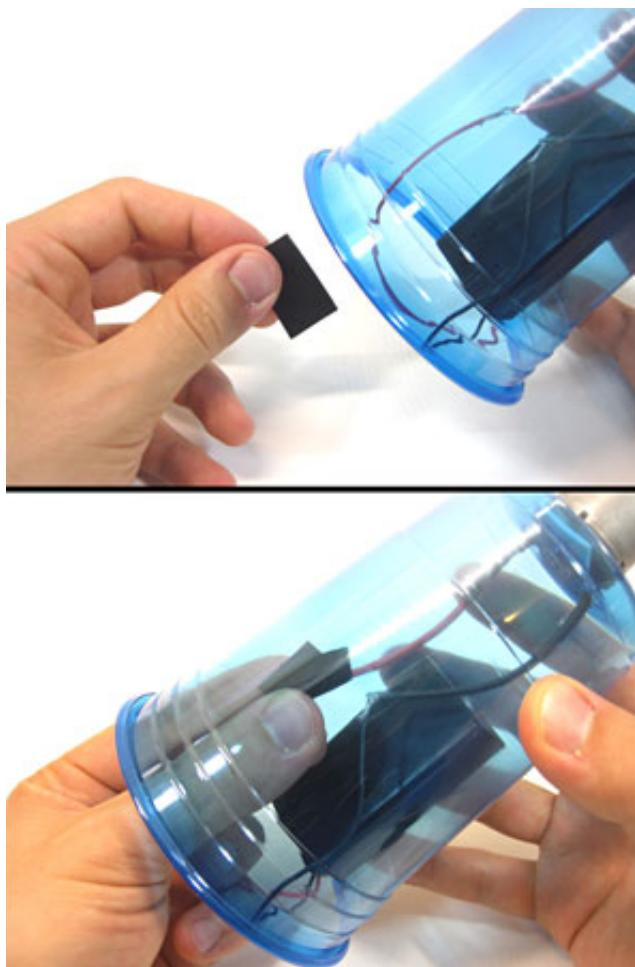

Figure 9. Wrap electrical tape around the exposed metal sections of the wires.
8. Wrap electrical tape around the twisted wires, as shown in Figure 9, below.